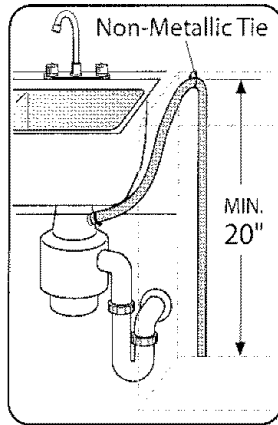

Figure 9
- 2 Directly to a disposer dishwasher drain connection, as shown in Figure 9.